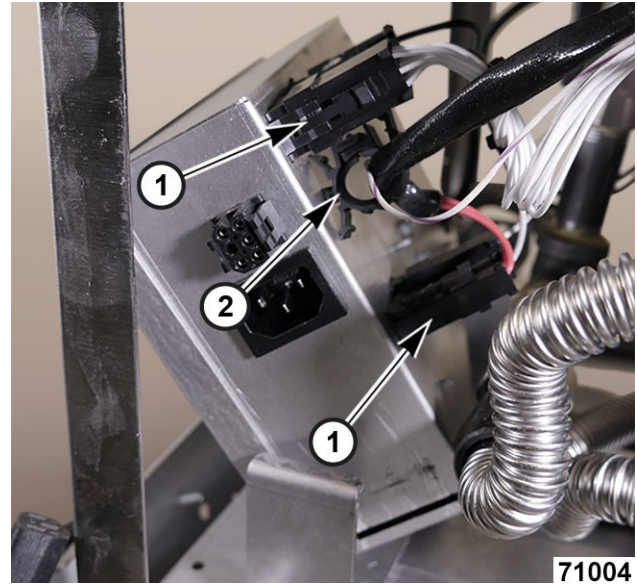

Fig. 42
6. Document and disconnect wires (1, Fig. 42) from power supply box.
7. Document and disconnect wires from wire clip (2, Fig. 42).
10. Connect wires to wire clip (2, Fig. 42).
11. Connect wires to power supply (1, Fig. 42).